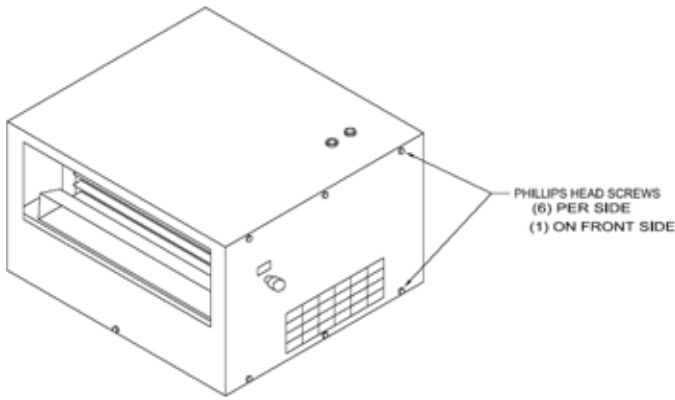

Figure 6
1. Loosen the two hex socket head set screws on the fan speed control knob and remove knob (Figure 6).